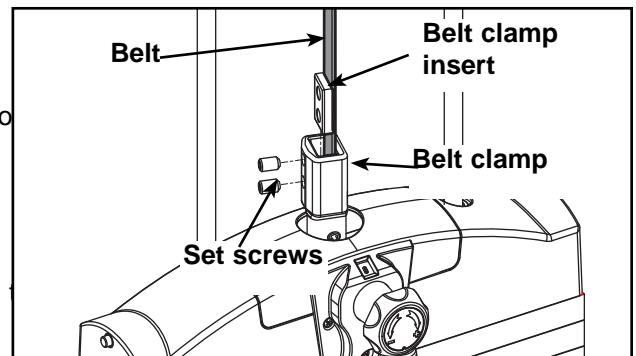

Figure 12
- E. Pull belt tight and secure belt to clamp with the two set screws. See Figure 12. **NOTE:** Torque set screws 300-350 in./lbs.